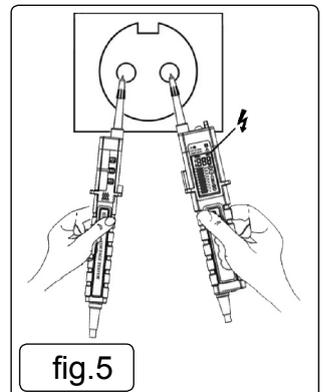

fig.5
- 5.3.6. LCD will display "⚠" when voltage source  $\geq 100\text{VAC/VDC}$  (fig.5).